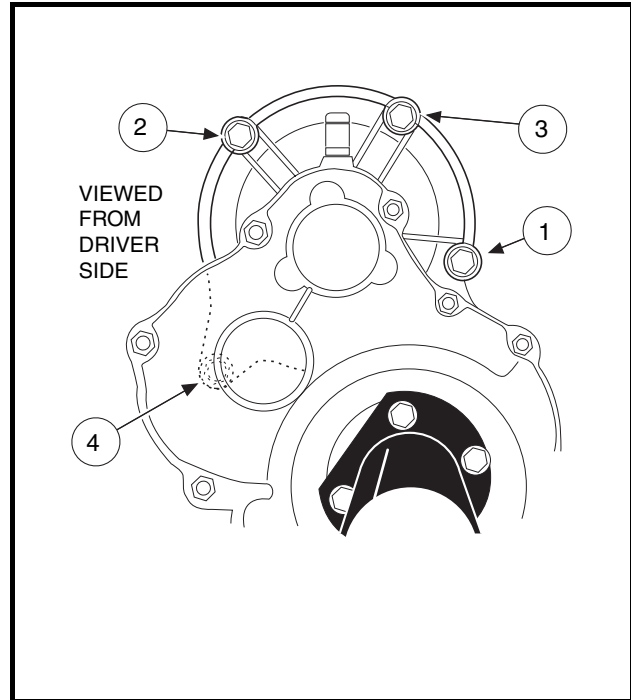

Figure 16-19 Motor Mount
- 4.3. Begin finger-tightening the bolts in the sequence indicated (**Figure 16-19, Page 16-15**). Continue tightening by hand until the motor is seated in the transaxle housing. **See following CAUTION and NOTE.**
- 4.4. Tighten the right bolt (1) to 65 in-lb (7.3 N·m) (**Figure 16-19, Page 16-15**).